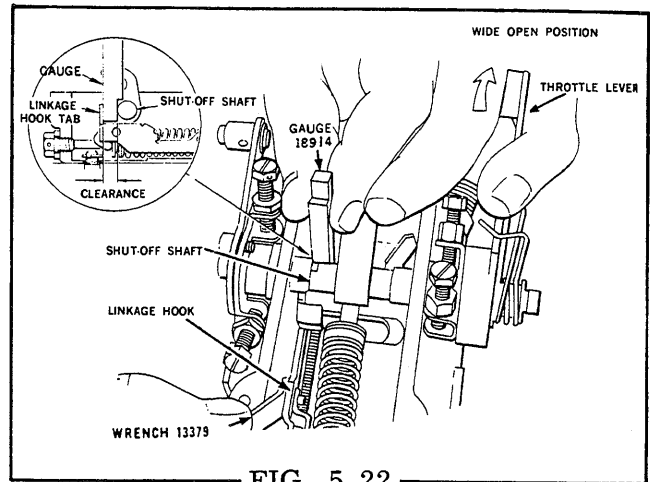

FIG. 5.22
STEP 22 Invert the pump and fixture in the vise. Prior to measuring and adjusting the linkage gap, hold throttle lever in wide open position and rotate the drive shaft in the proper direction of rotation until a slight "click" is heard, as the toes of the governor arm engage slots in the thrust sleeve. The torque screw (if used) should be backed out. With the throttle lever held in wide open position, use linkage gauge No. 18914 to check the clearance between the rear of the shut-off shaft and the vertical tab on the linkage hook. (Refer to TEST STAND DATA (Topic 9) for correct dimension). Adjustment of this clearance is made by using linkage Wrench No. 13379 to change the effective length of the linkage hook. Loosen the adjusting screw and slide linkage to maximum open length. Insert linkage Gauge No. 18914 between vertical tab and shut-off shaft, and slide linkage hook together from the rear until face of tab is flush against gauge. Tighten adjusting screw. Check adjustment and reset if required (Fig. 5.22).